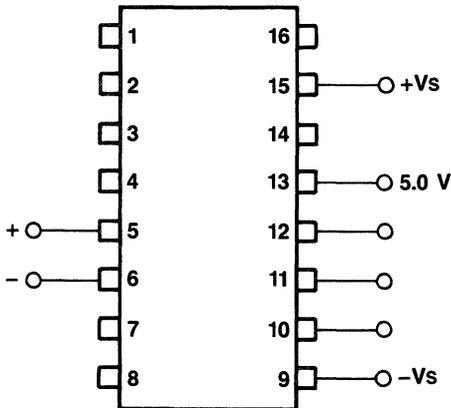

Figure 19. Logic Circuit Operation
- Figure 19 shows the required connections for the logic circuit operation.